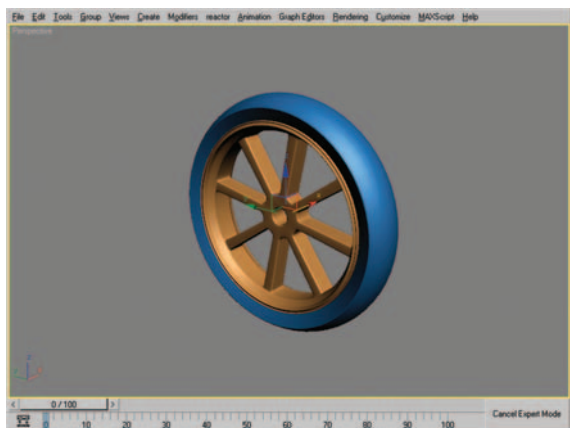

Figure 8.116 Tire after adjusting the lathe axis.
31. Click on the word “Lathe” in your modifier stack (it should be highlighted in yellow), and adjust the position of the axis to create a tire that fits snugly to the rim. Figure 8.116 shows the modeled result.